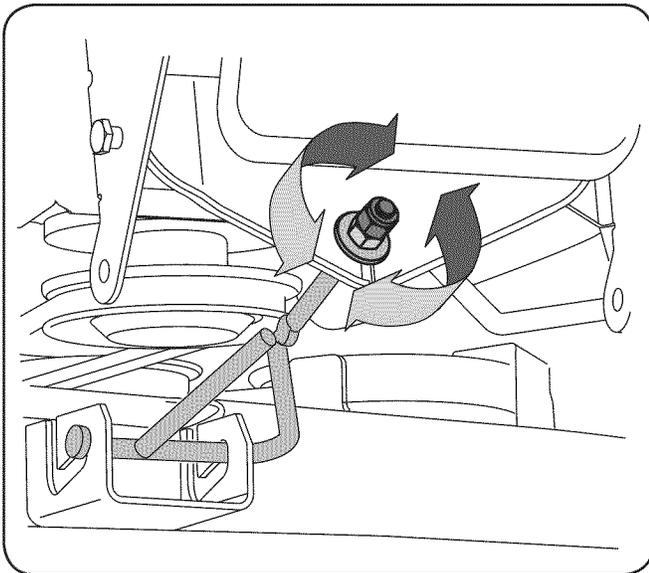

Figure 6-4
3. Locate the jam nut and lock nut on the front side of the stabilizer bracket. See Fig. 6-4. After loosening the jam nut: